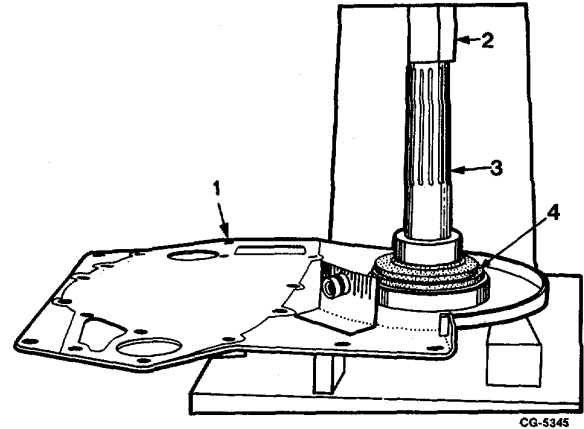

Fig. 52 Front Cover Oil Seal Removal with Cover Removed Using SE-1905 Handle and 3-1/4" O. D. Disc
58. Press front cover oil seal from front cover using a 3-1/4" O.D. flat disc from the SE-1905 Set, Figure 52.